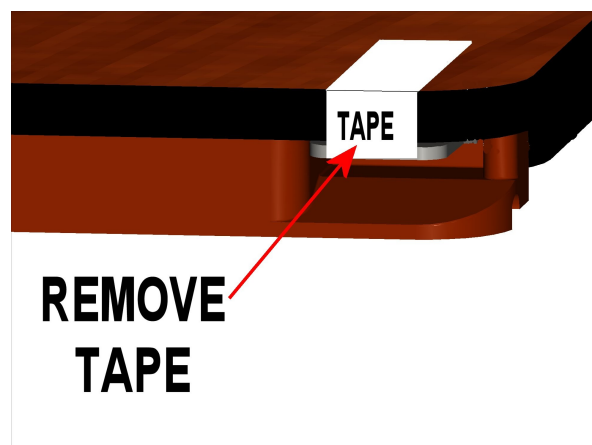

Fig. 3
- 3 Remove tape from drop lock paddle and table top. (Fig. 3)